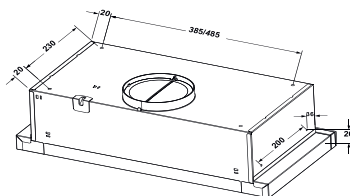

Fig.4
6.6 Connect the bubbler to the turbine outlet (with pipe adapter of bubbler $\text{Ø}150 \times 120 \text{mm}$). Remove the other end of the bubbler into the ventilation shaft (Fig. 4 / 4.1).